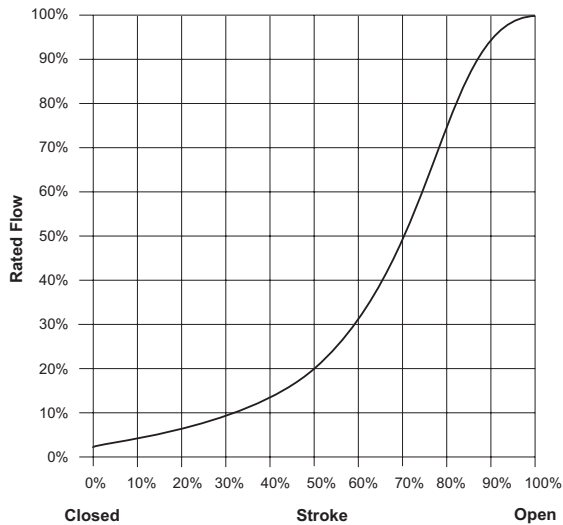

Figure 1 Typical Modified Equal Percentage Flow Characteristics.
**2-Way Valves:** All valves have modified equal percentage flow characteristics. That is, for equal increments of valve stem stroke, the change in flow rate with respect to valve stroke may be expressed as a constant percent of the flow rate at the time of the change. The change of flow rate with respect to valve stroke is relatively small when the valve plug is near the valve seat and relatively high when the valve plug is nearly wide open. See Figure 1 for typical modified equal percentage flow characteristics of VB-72xx and VB-92xx series valves.